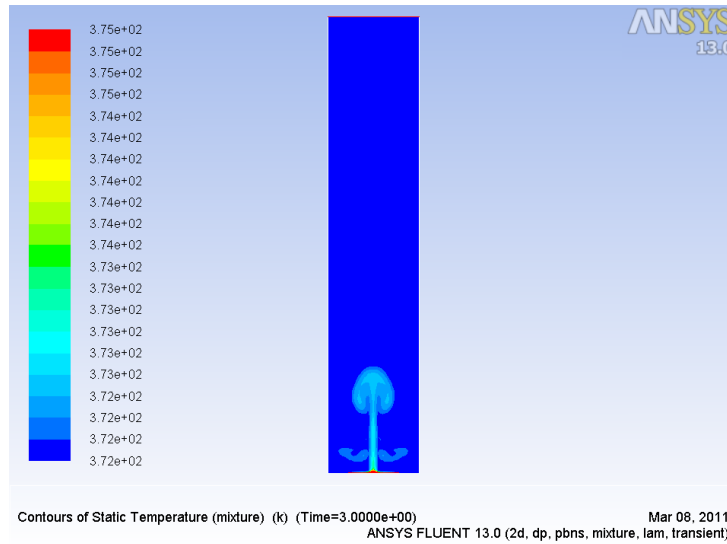

Figure 6: Contours of Static Temperature
5. Display filled contours of static temperature (Figure 6).